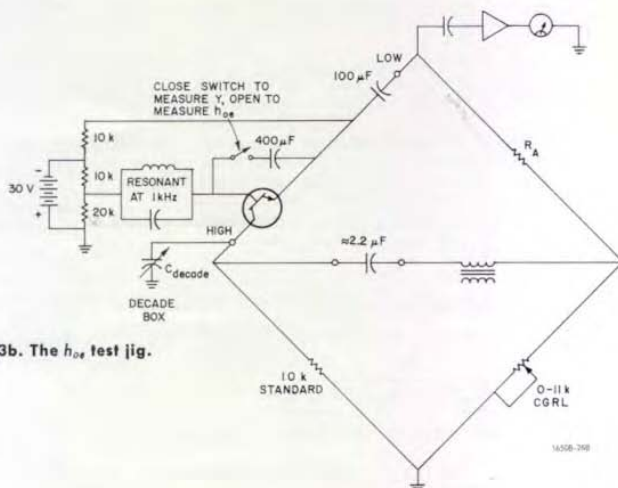

Figure 3b. The h_{re} test jig.
c. Use the G_{ac} bridge and the h_{oe} test jig (Figure 3b) and turn up the oscilla-